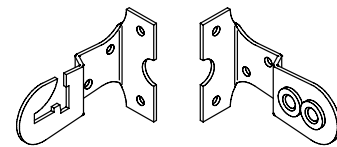

Figure 1
1. Mount brackets according to type of installation. Use appropriate fasteners (two per bracket) for wall, jamb or ceiling (see Fig. 1). The installer is responsible for selecting mounting hardware appropriate for site conditions.